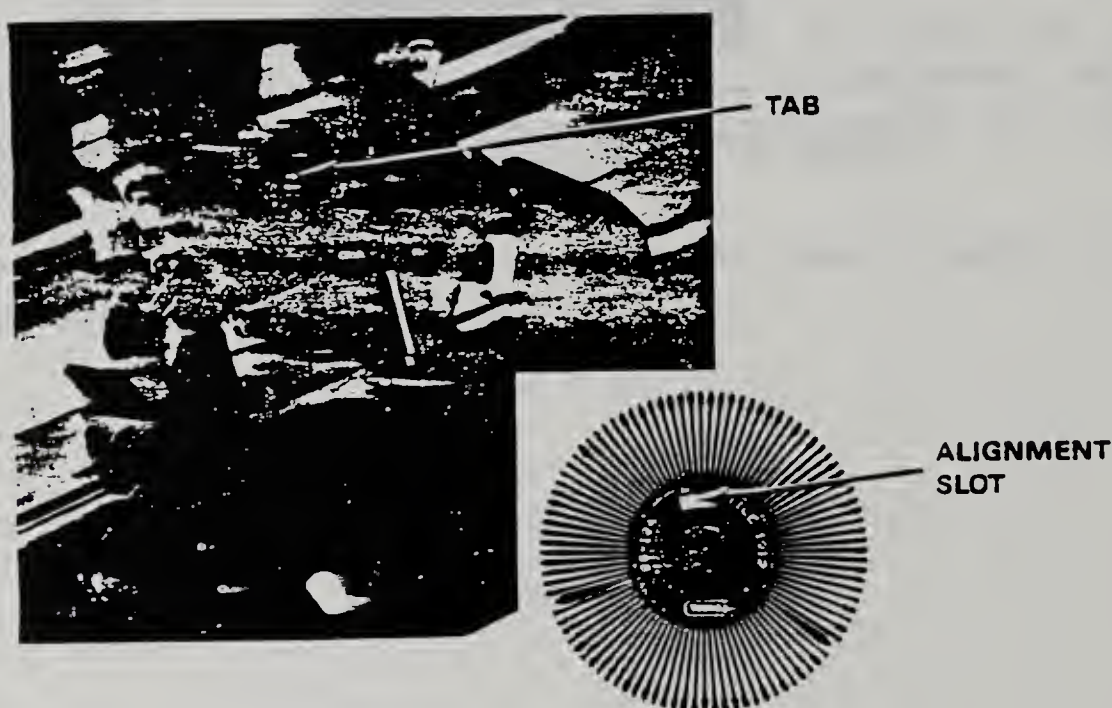

Figure 3-9. Tab and Alignment Slot Locations
4. To install a print wheel, hold the wheel so that the edge of the wheel is under the ribbon. Then rotate the wheel so the tab protruding from the shaft hub lines up with the alignment slot on the print wheel (refer to Figure 3-9). Push the wheel firmly onto the end of the print wheel shaft, making sure the tab enters the alignment slot on the wheel. Then grasp the print hammer and push it toward the platen until it clicks into position.